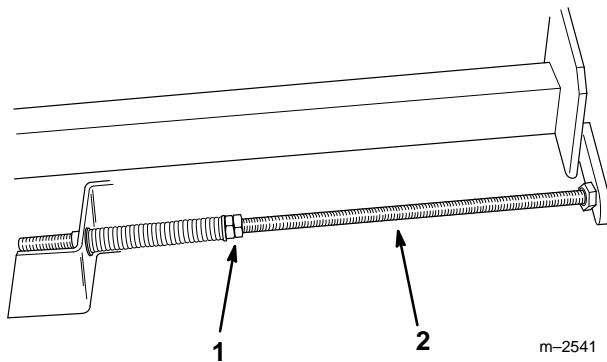

Figure 23
3. Loosen the jam nuts on each adjusting shaft to loosen the tension on the drive belt (Fig 23).